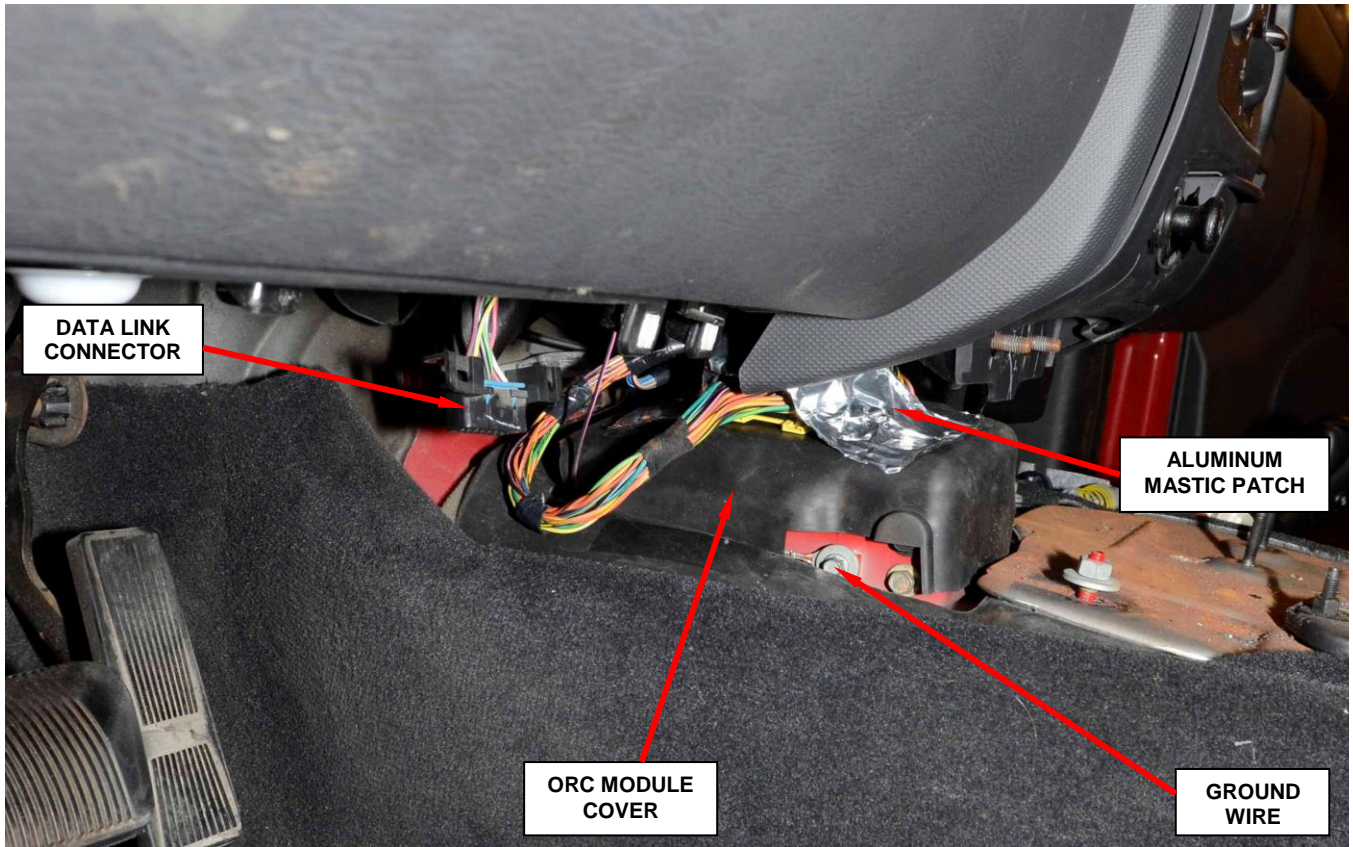

Figure 11 – Correctly Installed Jumper Harness and Aluminum Mastic Patch
28. Partially install the ORC module black rubber cover over the ORC module, plug the large yellow electrical connector into the ORC module, engage the yellow connector lock, then finish installing the ORC module cover into position (Figure 11).
29. Connect the ground wire at the ORC module (Figure 11).
30. Attach the data link connector to the instrument panel (Figure 11).